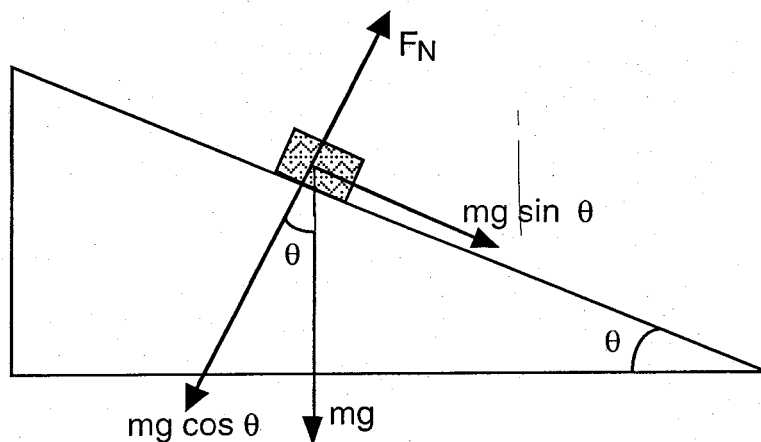

Fig. 3
5. Arrange the strings and weights as shown in Fig. 3 attaching a sheet of paper on the board. Using the mirror strip, mark the lines of action of forces F_1 , F_2 and F_3 , and the corners of the plastic strip (for finding the central axis AB).
2. In Figs. 3 and 4, let length $AM = 6.5$ cm, $F_2 = 120$ gm-wt, angle $\theta_2 = 60^\circ$. Calculate the torque of F_2 about A.
3. In Figs. 3 and 4, let length $AN = 16.5$ cm, $F_3 = 85$ gm-wt, angle $\theta_3 = 80^\circ$. Calculate the torque of F_3 about A.
Consider a glider on a smooth inclined plane (shown in Fig. 3). The cart glides on a cushion of air and so friction is minimized. Thus the external forces acting on the block are its weight mg and the normal force F_N applied by the plane. The component of the weight perpendicular to the plane is $mg \cos \theta$, which balances the normal force F_N . Thus the resultant force on the glider is equal to the component of mg along the plane, that is $mg \sin \theta$. Finally, according to Newton's second law, the acceleration of